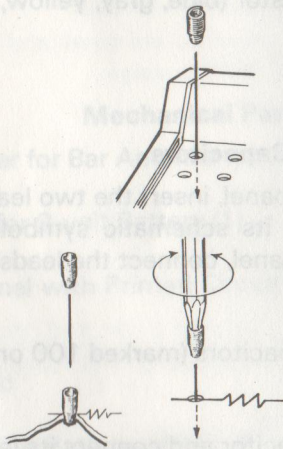

FIGURE 3
- From the top side of the cardboard panel, install 50 spring terminals into the 50 large, numbered holes; the smaller end of the spring should be at the bottom. To make the installation easier, use the pointed end of a pencil to push the spring through the holes and twist slightly. (See Figure 3.)